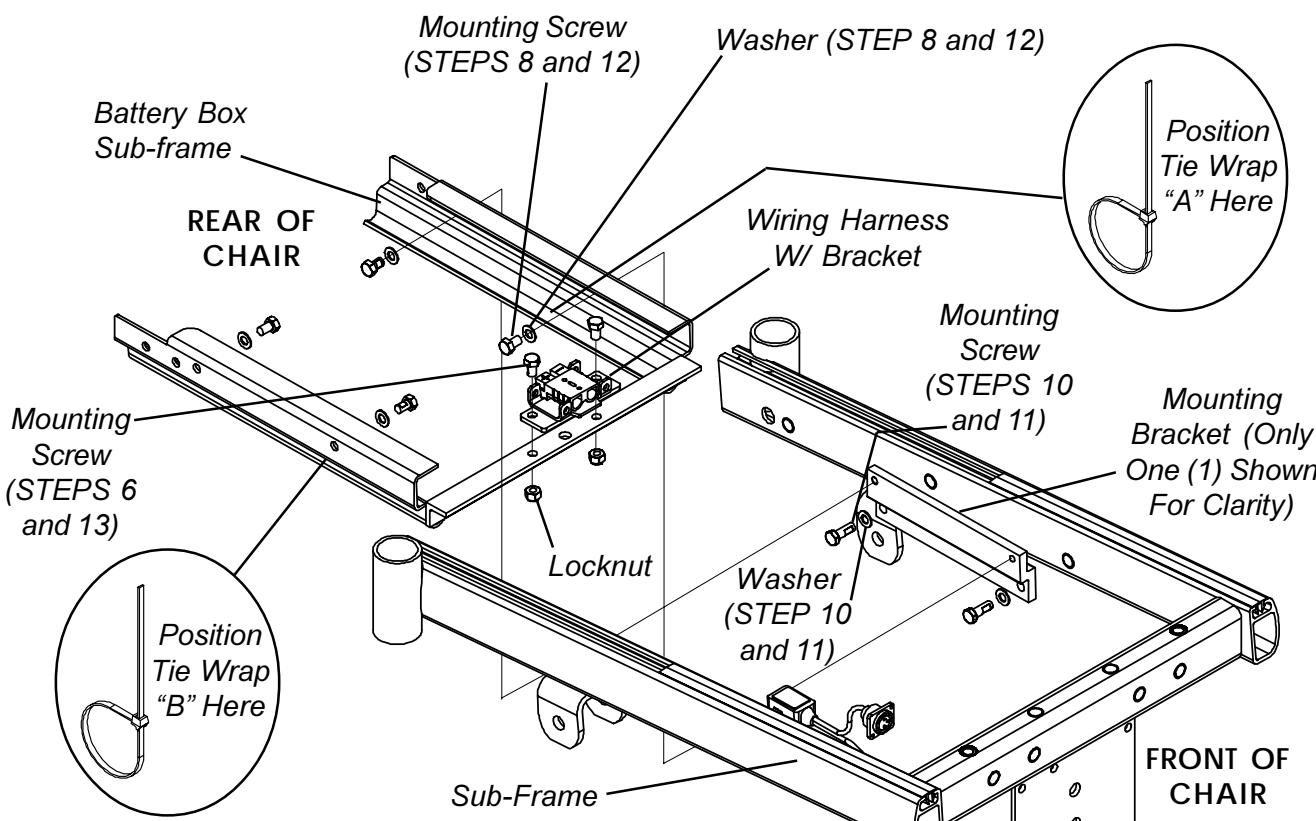

FIGURE 5 - REMOVING/INSTALLING GROUP 24 BATTERY BOX SUB-FRAME
BOX SUB-FRAME (FIGURE 5)
6. Remove the two (2) mounting screws and locknuts that secure the wiring harness w/bracket to the battery box sub-frame.
8. Remove the four (4) mounting screws and washers that secure the battery box sub-frame to the mounting brackets.
10. Remove the four (4) mounting screws and washers that secure the two (2) mounting brackets to the sub-frame.
11. Install the four (4) mounting screws and washers that secure the two (2) NEW mounting brackets to the sub-frame.
12. Install the four (4) mounting screws that secure the NEW battery box sub-frame to the mounting brackets. Use Loctite 242 and torque mounting screws to 156-inch pounds.
13. Install the two (2) mounting screws and locknuts that secure the wiring harness w/bracket to the NEW battery box sub-frame. Use Loctite 242 and torque mounting screws to 160-inch pounds.
14. Secure the sensor cable **AND** the LEFT motor cable to the NEW battery box sub-frame using tie wrap A. Refer to FIGURE 5 for tie wrap positioning.
15. Secure the battery charger cable **AND** the RIGHT motor cable to the NEW battery box sub-frame using tie wrap B. Refer to FIGURE 5 for tie wrap positioning.